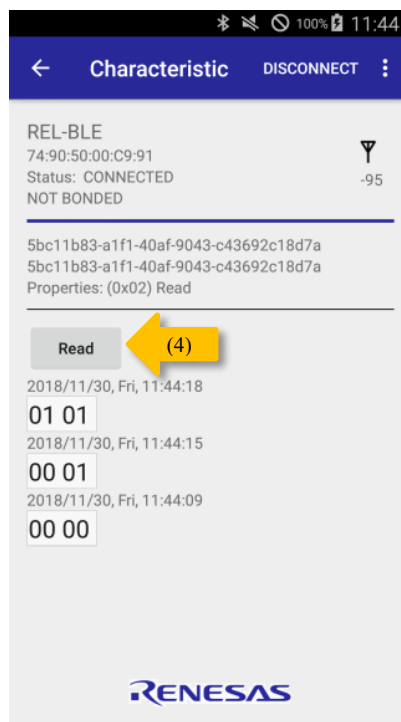

Figure 4
6. (Figure 4 - Arrow (4)) Tap the "Read" button to display the status of the dipswitch. Please operate SW6-1, SW6-4 on the evaluation board and confirm that the state of the dipswitch changes.